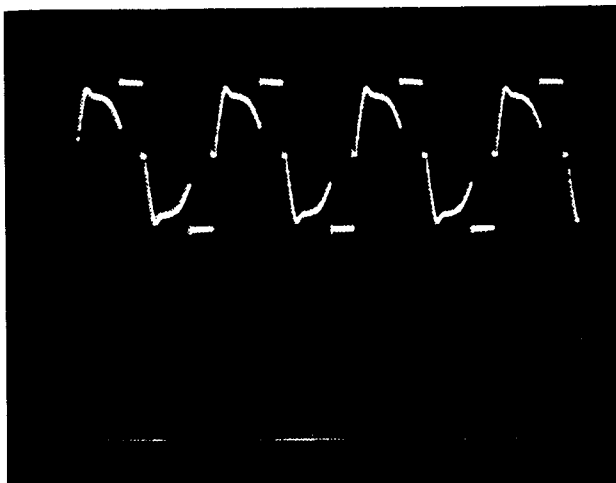

Fig. 17-2
In actual operation, the output voltage (V_{out}) expressed by formula (1) is maintained at a stable level. Consequently, when load fluctuation or fluctuation of the primary (battery) voltage occurs, the PWM circuit illustrated in Fig. 17-2 and 17-3 to control the pulse width of the gate voltage at A.